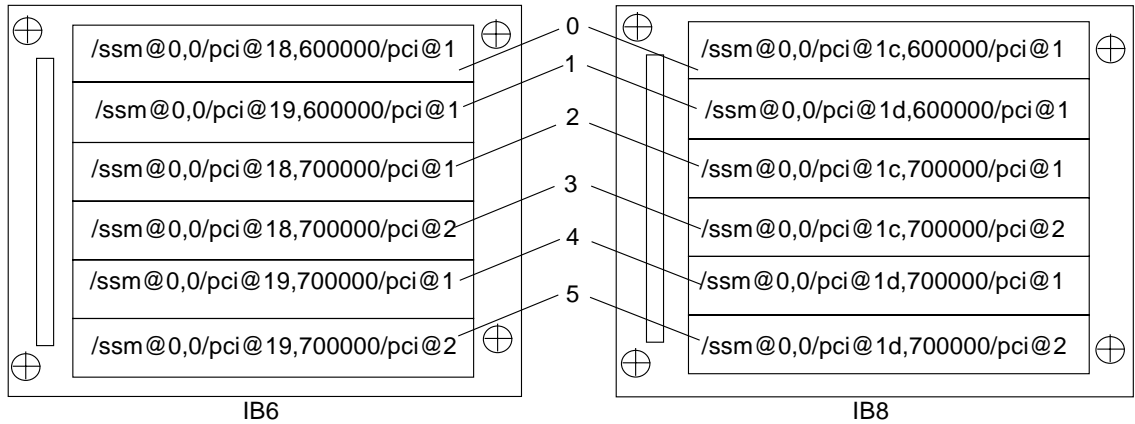

FIGURE A-3 Sun Fire 3800 System 6-Slot CompactPCI Physical Slot Designations
2. Use FIGURE A-3 to locate the slot based on I/O assembly and the physical slot number.
FIGURE A-3 illustrates the Sun Fire 3800 CompactPCI physical slot designations.